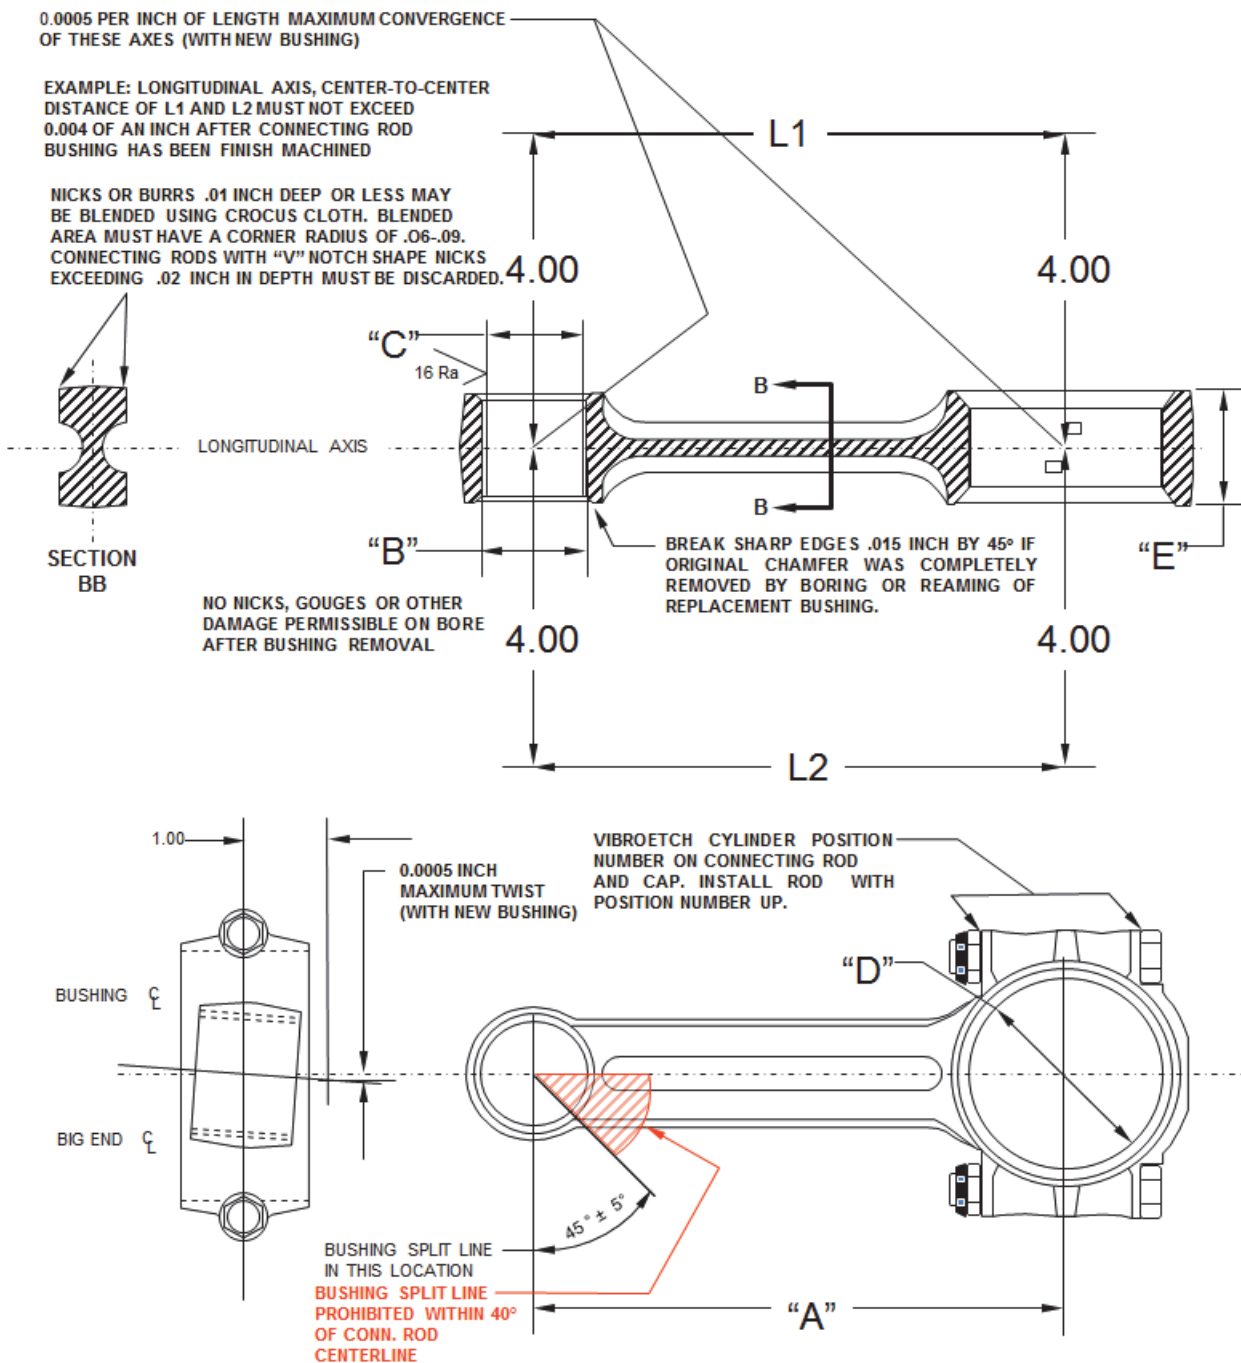

Figure 10-41. Connecting Rod Dimensions
13. Use precision measuring equipment, such as a dial bore gauge or air gauge; verify the connecting rod meets the dimensional specifications in Figure 10-41 and Table 10-39.
14. Measure the inside diameter of the rod and cap within 30° of the rod and cap joint; take a second measurement 90° from the first. Both measurements must meet dimensional specifications in Figure 10-41 and Table 10-39; the difference between these two measurements is an indication of out-of-round and must not exceed 0.0015 inches. Scrap connecting rods and caps which fail to meet dimensional specifications in Figure 10-41 and Table 10-39 or exceed 0.0015" out-of-round. Scrap connecting rods and caps which fail to meet these specifications.
Failure to comply with the specifications and instructions depicted in Figure 10-41 will result in engine malfunction and/or stoppage.
5. Place the piston pin bushing on the pilot so that the bushing split is located $45^{\circ} \pm 5^{\circ}$ from the center line of the connecting rod, facing the crankpin end. Refer to the Connecting Rod dimensions in Figure 10-41 and Table 10-39.
8. Bore the new piston pin bushing to the diameter specified in Figure 10-41 and Table 10-39 according to the “Connecting Rod Piston Pin Bushing Boring” in Section 10-9.4.3.
10. Verify the piston pin bushing split line meets Figure 10-41 specifications.